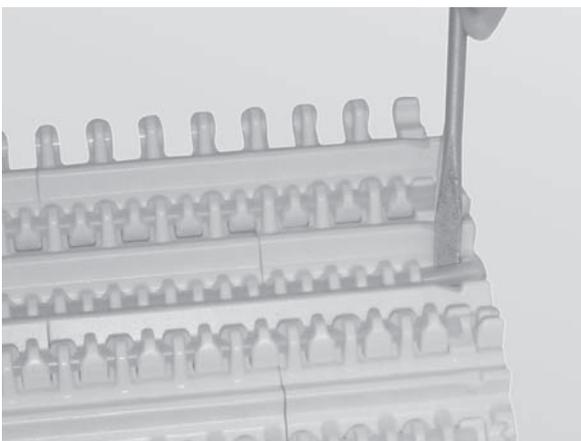

Figure 60
2. Use a flat head screwdriver to raise the end of the belt rod above the retention lip (**Figure 60**).